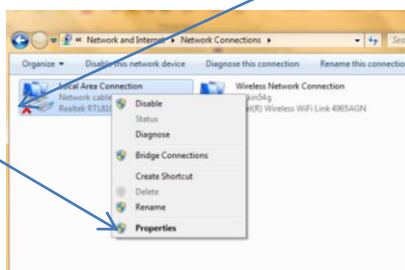

Fig 3
- d. When the Change adapter settings opens click on “**Local Area Connection**” and click on “**Properties**” from the pop up menu. (Fig 3)